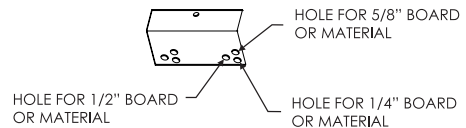
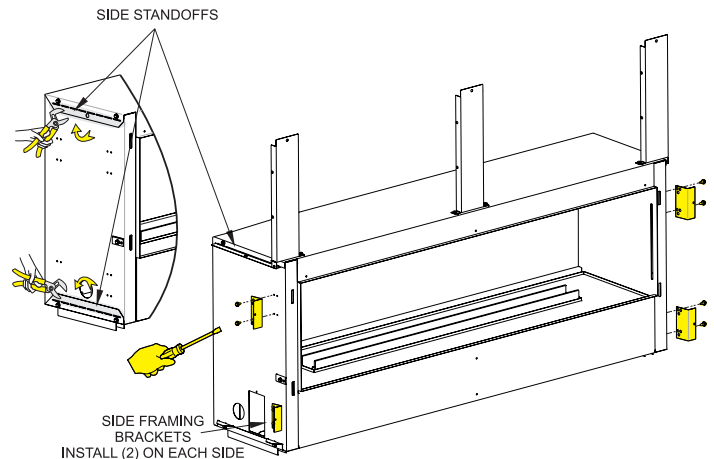

Figure 11
Figure 13
6. Locate framing brackets in the envelope pack. The holes in the framing brackets allow different size boards and different locations for the boards. See Figure 11. Bend the brackets at 90° angles. Install four framing brackets with two 10 x 1/2 screws (each). See Figures 13 and 14. Use the front set of holes if mounting around fireplace window. Use the back set of holes if mounting around the fireplace face (top, sides and bottom). Note: The non-combustible board provided is 1/2" thick.